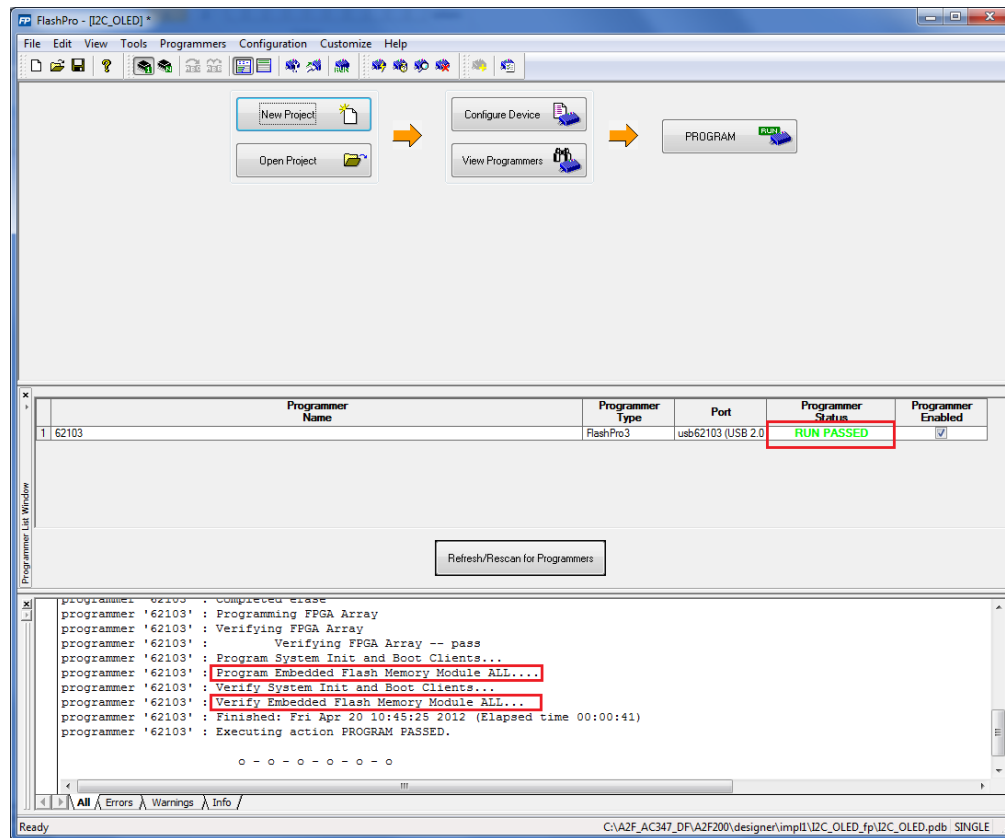

Figure 16 · FlashPro Programming
17. Click **PROGRAM** to program the device. Observe the FlashPro log window showing 'Program Embedded Flash Memory Module ALL...' command execution as shown in the Figure 16 . .